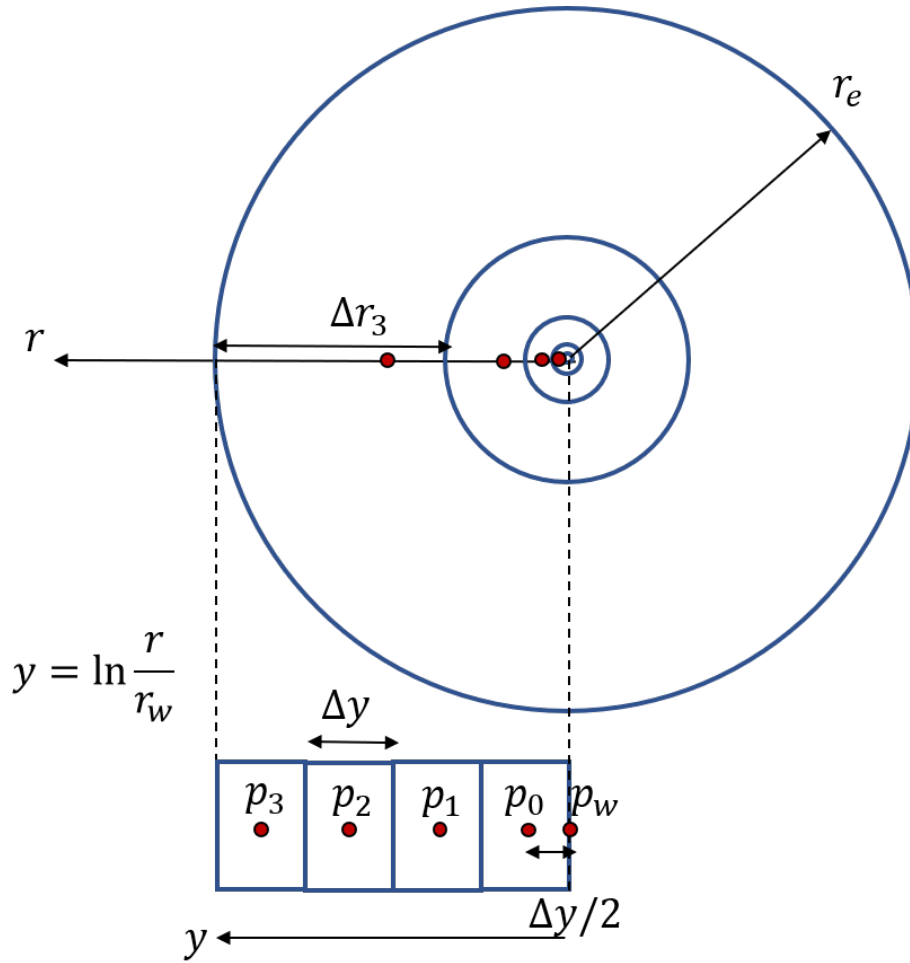

Figure 1: Sketch of the coordinate transformation $r \rightarrow y$. Note that the pressure is always evaluated at the center of the y -blocks.
Part 4. We are now going to discretize equation (19). We start by dividing the total flow domain into N equally sized grid blocks in the y -coordinates, see figure 1 for an illustration. The numerical pressure solution will be calculated at the *midpoints* (centers) of the y -blocks; note that this does *not* correspond to the center of the r -blocks!